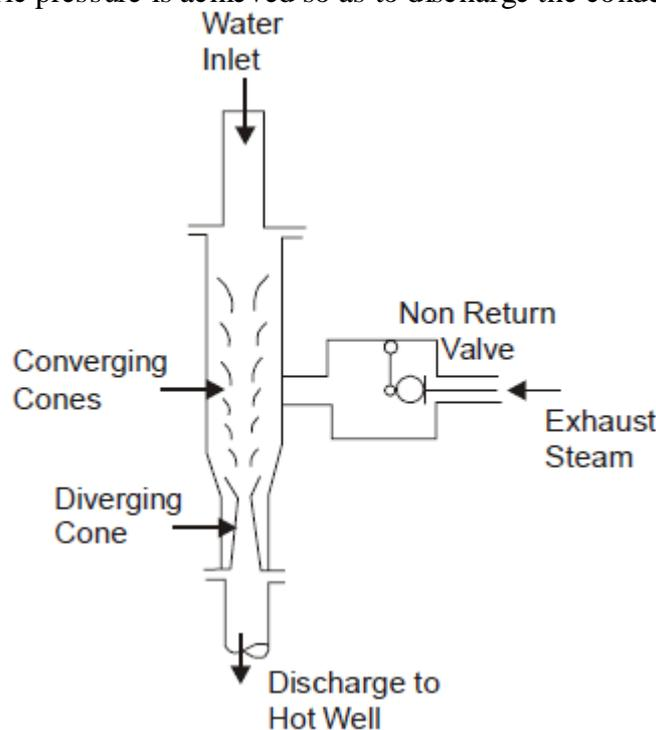

Fig 9.3 Ejector Condenser
- ❖ Fig. 9.3 shows an ejector condenser. In this condenser cold water is discharged under a head of about 5 to 6 m through a series of convergent nozzles.